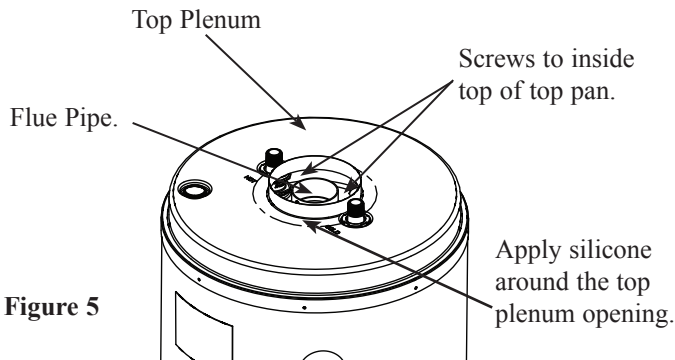

Figure 5
A. Apply silicone around the outside of the flue pipe where the 3" inner pipe will be installed. (See Figure 5) Remove the tape that secures the 3" inner pipe. Extend the 3" inner pipe by pulling it downward and pressing it into the silicone applied earlier to ensure a good seal.
B. Secure the 3" inner pipe to the top pan by inserting two #8 x 3/8" long screws through the brackets that have been bent as shown in Figure 5, on each side. (See Figure. 5)
- 8** Remove the tape that is attached to the 5" outer pipe. Extend the 5" outer pipe by pulling it downward. Connect the 5" outer pipe to the top plenum (See Figure 5) and secure it with two SM screws supplied with the vent kit. Apply silicone to the top plenum connection as shown in Figure 5